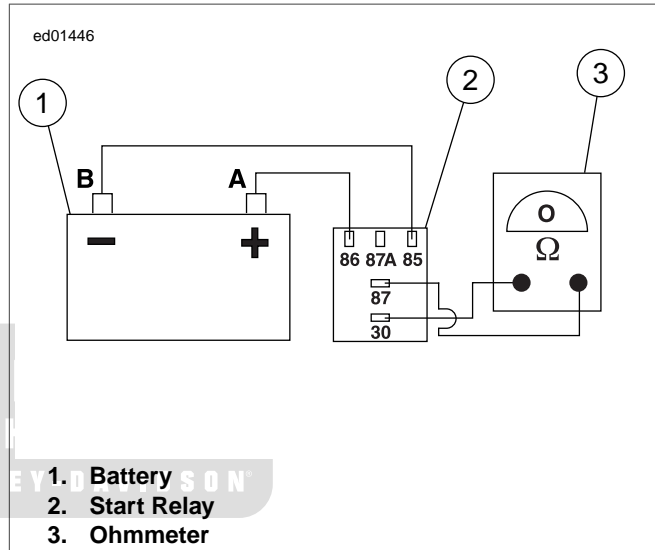

Figure 1-30. Relay Test
- See Figure 1-30 to energize the relay. Connect relay terminal 85 to the negative battery terminal and relay terminal 86 to the positive battery terminal.